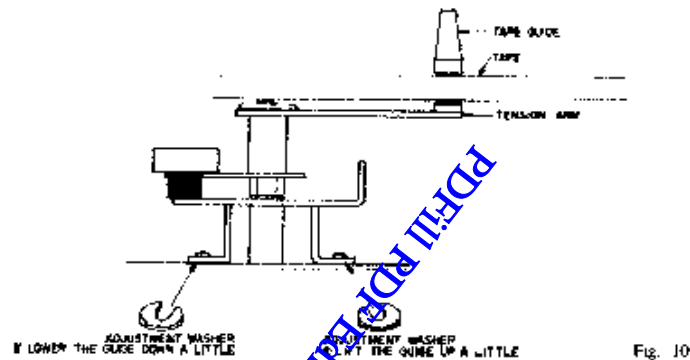

Fig. 10
## 18. TAPE GUIDE HEIGHT ADJUSTMENT (Refer to Fig. 10)
- 2) In case the tape guide is low, adjust by inserting a U Type Washer on the right side in Fig. 10, and in case it is high, adjust by inserting a washer on the left side.